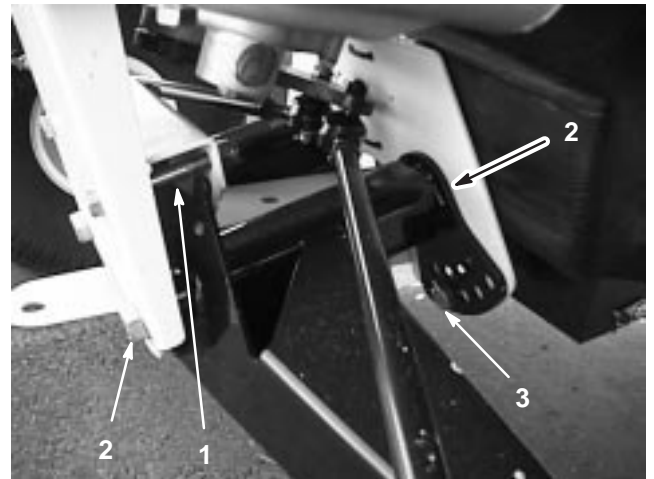

Figure 33
2. Remove the travel limiting bolt (Fig. 33).
3. Loosen the centering bolts in the front A-arm (Fig. 33).
4. Remove the ride height adjustment bolt (Fig. 33).
5. Rotate the front A-arm to the desired position (refer to the note below) and replace the ride height adjustment bolt (Fig. 33).
7. Replace the travel limiting bolt (Fig. 33).